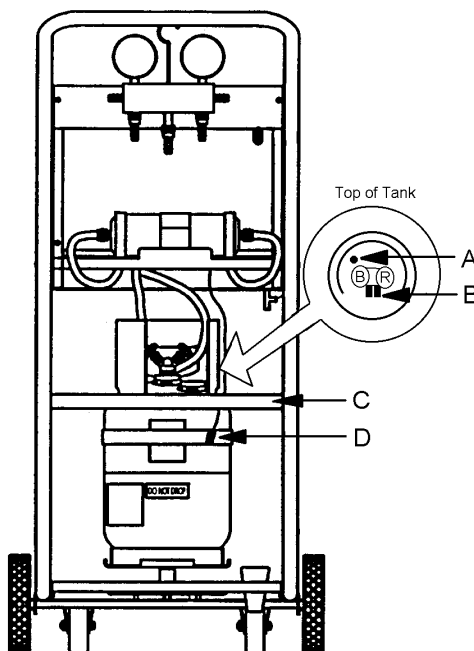

FIGURE 3 INSTALLING TANK
11. Connect the Yellow Hose from the bottom of unit to the purge valve (A) shown in FIGURE 3 on top of the Recovery Tank. Connect the Red Hose from the bottom of the unit to the **RED** valve (B) on the Recovery Tank.
12. Connect the Tank Brace (EASC076C10A) (C) to the frame and secure with Wing Nuts (04070019).
13. Slide the Temperature Lead between the Velcro Strap (D) on the recovery tank. Ensure that the velcro strap is 2" above the weld of the tank.